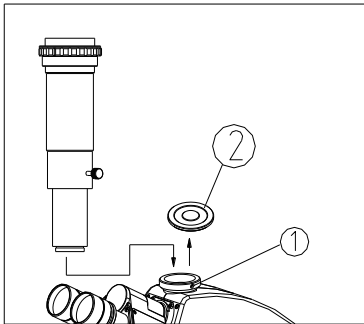

Fig.16
1. Loosen the lock screw (1) of trinocular head, take out the triplet dust-cover (2).
2. Insert the photography device into the trinocular head as shown in the figure, and screw down the lock screw (1) (see Fig.16).